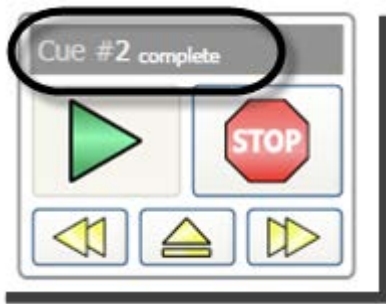

Figure 257
- The **Cue Controller** in the **Motor Editing Pane** on your screen updates its status text (Figure 257).